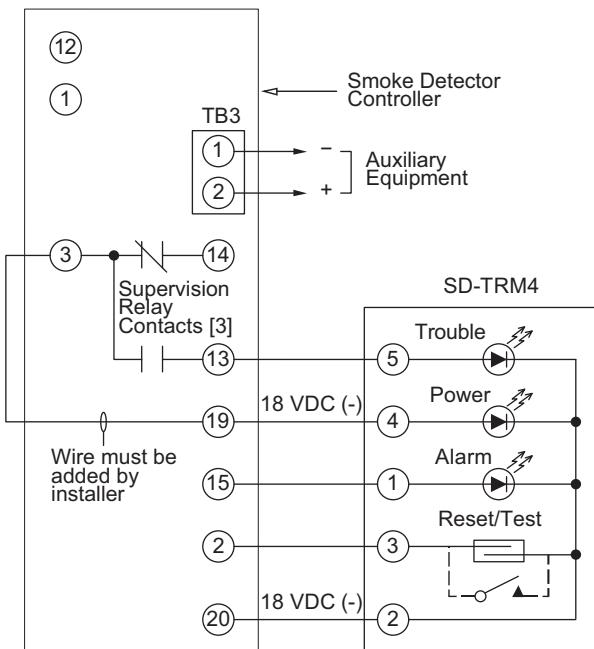

Fig. 50 – Remote Test/Reset Station Connections
The test/reset station dirty sensor test checks the test/reset station's ability to initiate a sensor dirty test and indicate the results. It must be wired to the controller as shown in Fig. 50 and configured to operate the controller's supervision relay. For more information, see "Dirty Sensor Test" on page 34.
1. Verify that the remote test/station is wired as shown in Fig. 50. Repair or replace loose or missing wiring.